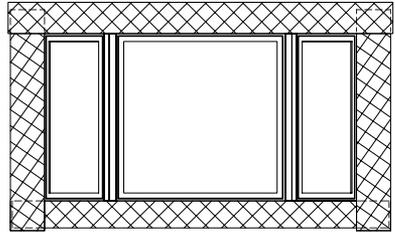

Figure 1
2. An overview of the proper flashing is shown in Figure 1. Application is in weatherboard fashion.